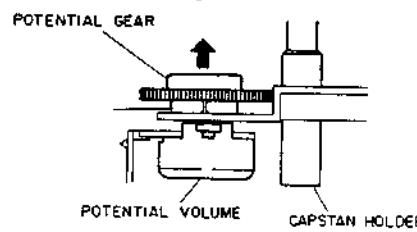

Fig. 3-14
- 4) Remove the potenio gear. Unscrew the position potential volume securing nut. (Refer to Fig. 3-14)